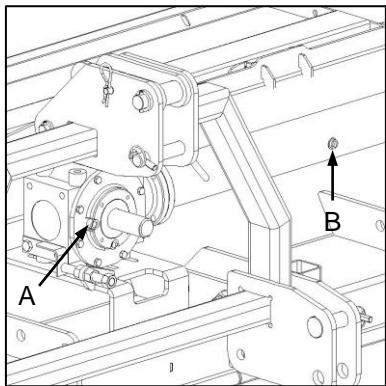

Fig. 7
- The gearbox (Fig. 7-A) and extension housing (Fig. 7-B) are equipped with filling ports. Check oil levels in both locations.
- Die ratkas (Fig. 7-A) en verlengomhulsel (Fig. 7-B) beskik oor olievulpunte. Olievlakte moet by albei punte nagegaan word.